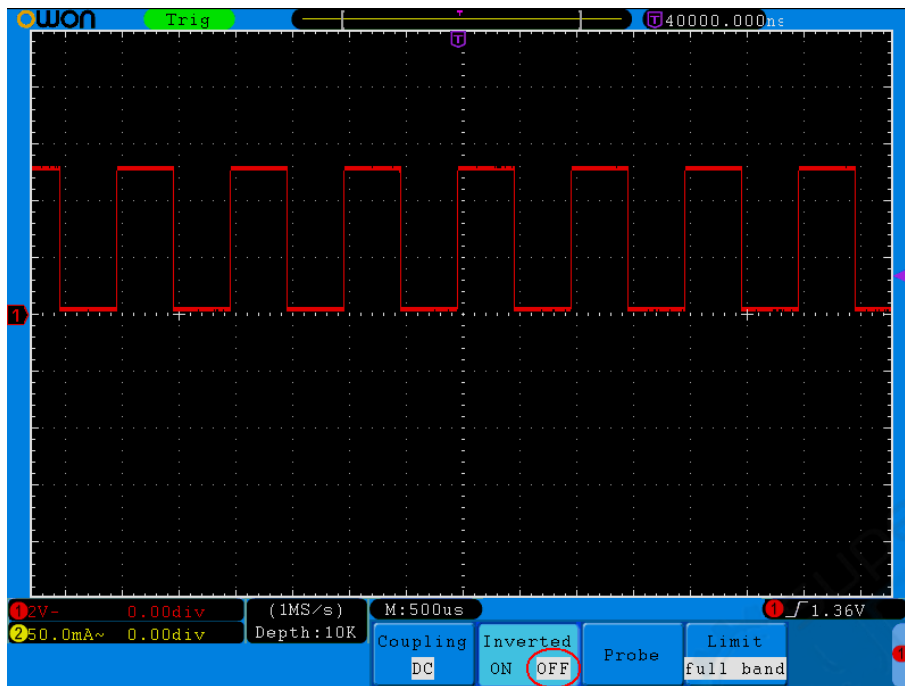

Figure 5-6 Original Waveform
- (3) Press the **H2** menu selection button again and select **OFF** for **Inverted** item. The waveform goes back to its original one as it is shown in *Figure 5-6*.